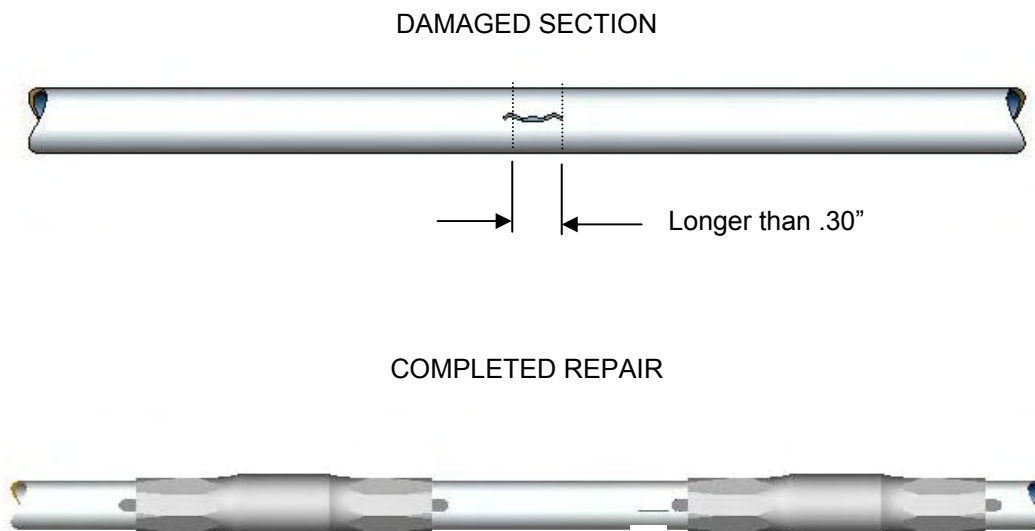

Figure 9: Type 2a Repair, Crack is Longer than 0.30"
a. Make two cuts to allow removal of damaged section of tube. Cut the tube only after checking to assure enough space is available to operate the swage tool. See Figure 9 below.